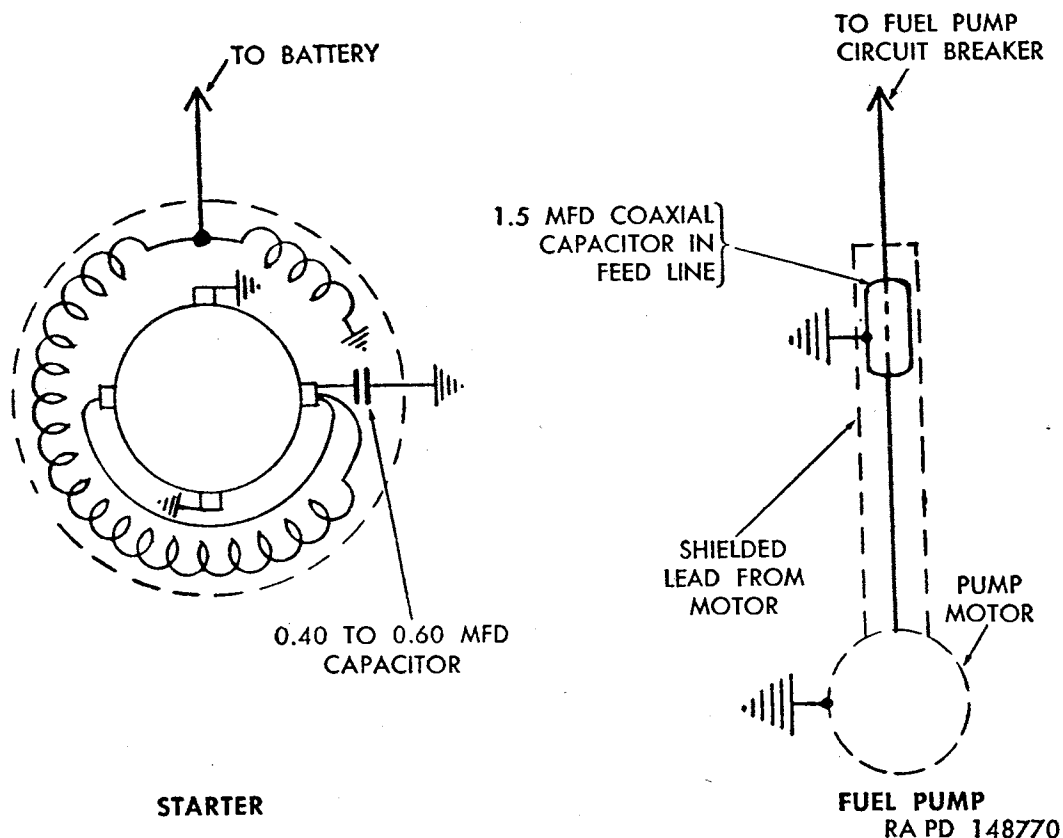

Figure 182. Schematic circuit diagram of starter and fuel pump radio suppression units.
a. Description and Data. Starter series field windings and insulated brushes are grounded to commutator end head through a 0.40 to 0.60 mfd capacitor (fig. 182). Capacitor (fig. 146) is mounted on commutator end head and is grounded through its mounting.
(fig. 182)